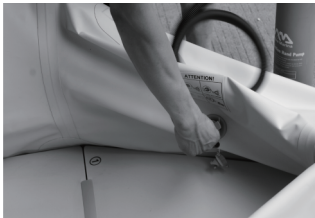

Fig.5
d. Step on raised part of two connected floor sections and make sure that floor will flatten by spreading inside the boat (Fig.4). Connect the side stringers. (Fig.5)
e. Connect the side stringers. (Fig.5)